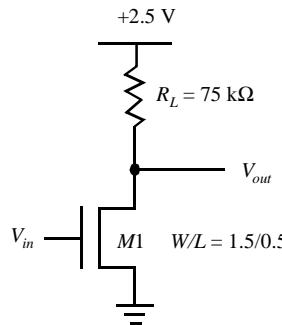

Figure 5.3 Resistive-load inverter
3. [M, SPICE, 3.3.2] Figure 5.3 shows an NMOS inverter with resistive load.
4. [E, None, 3.3.3] For the inverter of Figure 5.3 and an output load of 3 pF :